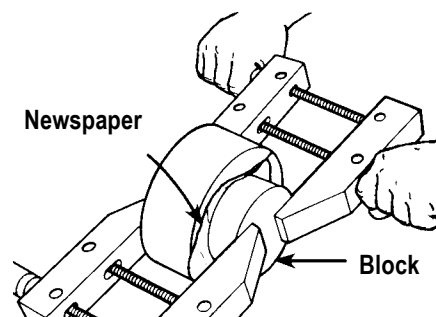

Figure C-50
-- If you don't want screw holes in the bottom of your finished turning, mount the stock to a block of wood. Select a block at least 1" thick and about the same diameter as the faceplate. Find the center of this block, then glue the block to the stock, center to center. Put a piece of newspaper in between the block and the stock when you glue them up. Leave clamped at least 24 hours. See Figure C-50.